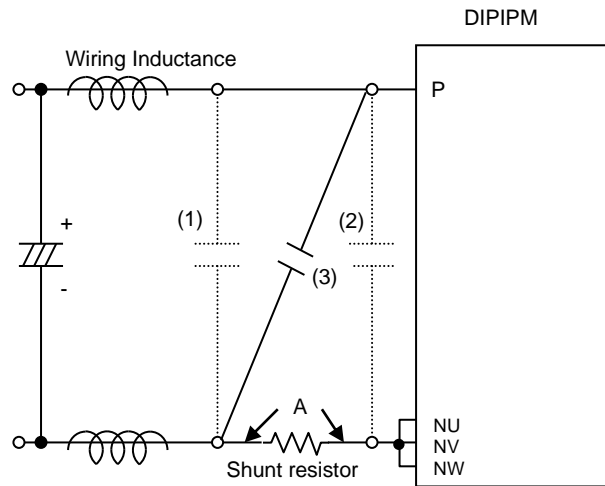

Fig.3-1-8 Recommended snubber circuit location
Normally there are two positions ((1) or (2)) to mount a snubber capacitor as shown in Fig.3-1-8. Snubber capacitor should be installed in the position (2) so as to suppress surge voltage effectively. However, the charging and discharging currents generated by the wiring inductance and the snubber capacitor will flow through the shunt resistor, which might cause erroneous protection if this current is large enough.